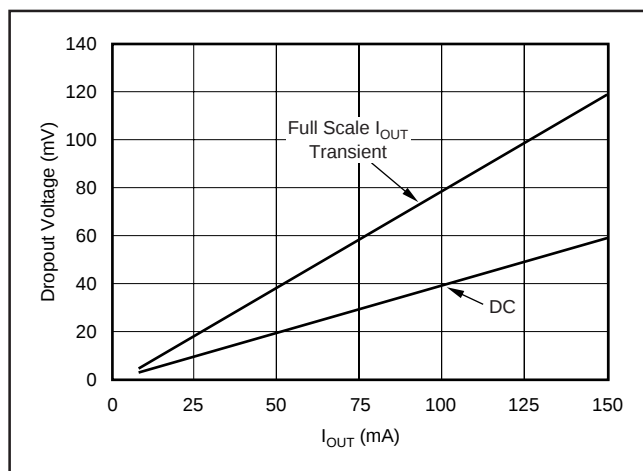

FIGURE 6. Transient and DC Dropout.
The REG101 uses an N-channel DMOS as the “pass” element. When the input voltage is within a few tens of millivolts of the output voltage, the DMOS device behaves like a resistor. Therefore, for low values of V_{IN} to V_{OUT} , the regulator’s input-to-output resistance is the $R_{DS_{ON}}$ of the DMOS pass element (typically 600m Ω). For static (DC) loads, the REG101 will typically maintain regulation down to V_{IN} to V_{OUT} voltage drop of 60mV at full rated output current. In Figure 6, the bottom line (DC dropout) shows the minimum V_{IN} to V_{OUT} voltage drop required to prevent drop-out under DC load conditions.
For large step changes in load current, the REG101 requires a larger voltage drop across it to avoid degraded transient response. The boundary of this “transient drop-out” region is shown as the top line in Figure 6. Values of V_{IN} to V_{OUT} voltage drop above this line insure normal transient response.